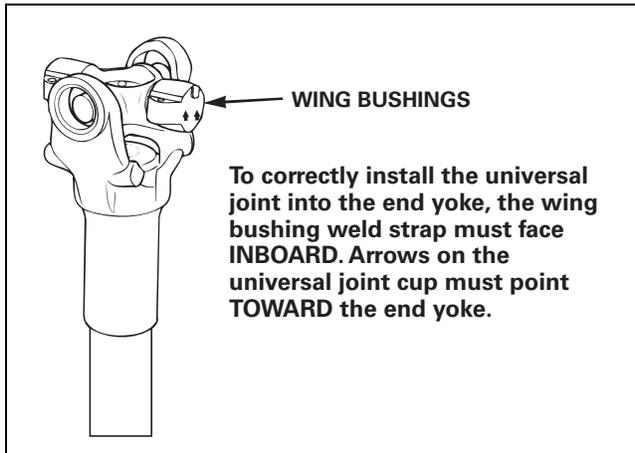

Figure 4.30
2. Install the universal joint into the yoke so that the wing bearing weld straps face INBOARD and the arrows point toward the end or coupling yokes. Figure 4.30.